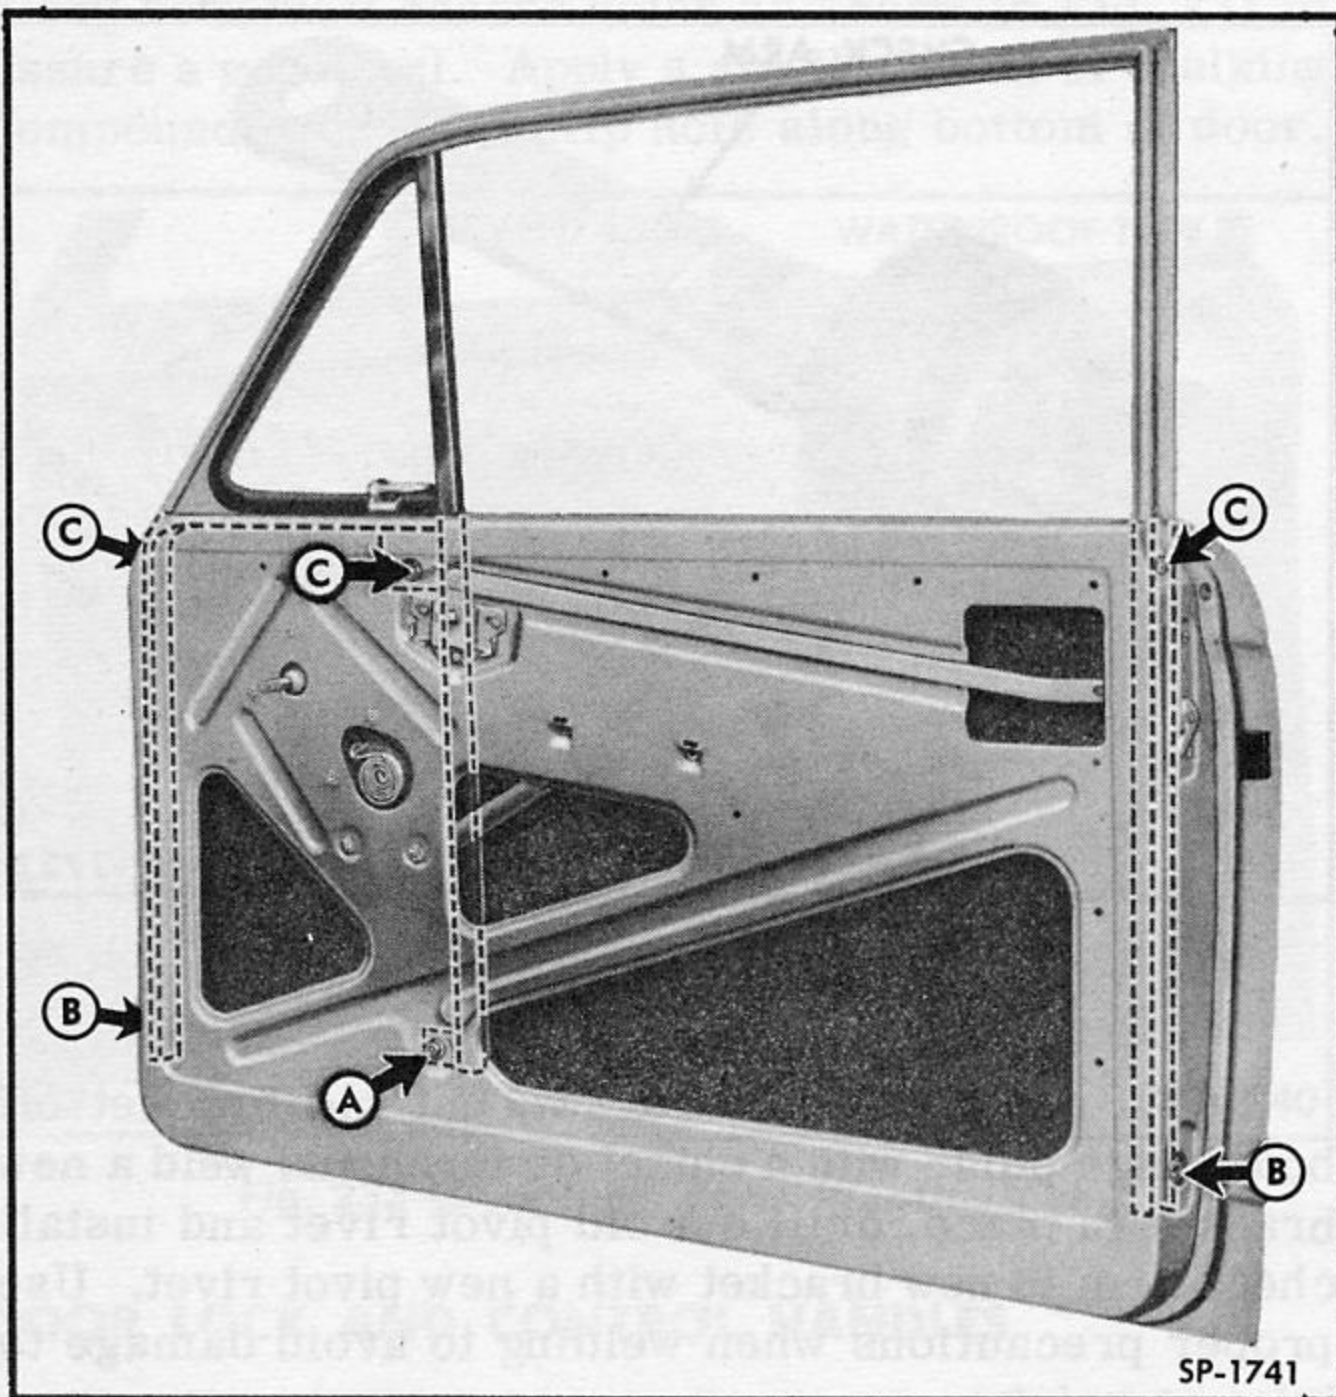

Fig. 238—Door Window Frame Attachment
2. Remove nut (A in Fig. 238) attaching door division bar lower adjusting stud to inner panel.
3. Remove screws (B in Fig. 238) attaching lower ends of door window frame to inner panel.
4. Remove screws (C in Fig. 238) attaching door window frame and door division bar to door inner panel at belt and lift door window frame, ventilator assembly and division bar out of door as a unit.
7. Adjust door window frame at lower attaching points A and B in Fig. 238 for proper compression of door weatherstrip along side roof rail when door is closed. Adjustment at these locations will also provide free door window operation.